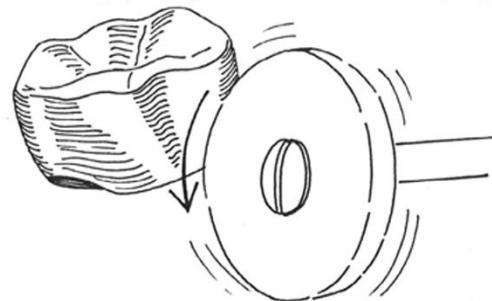

Figure 13 - Busch Silent stone smoothing and thinning the margin.
4. Finishing the margins. Use a Busch silent wheel to smooth and **slightly** thin the cervical margin of the crown; rotate the stone toward and at a 45 degree angle to the edge of the crown. See Figure 13.